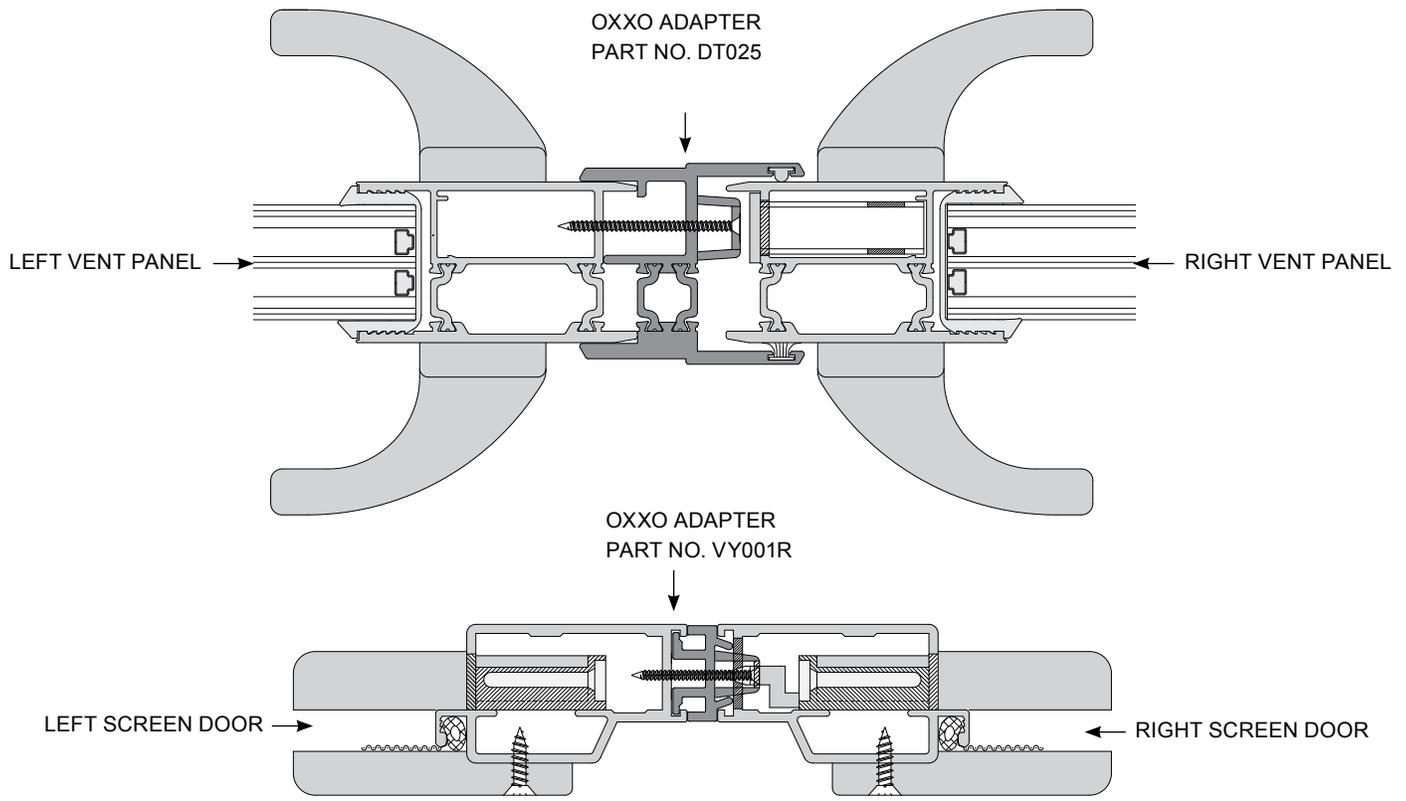

FIG. 55
3. Install DT02511 OXXO Adapter (FIG. 55) to the inactive vent panel. Dry fit the adapter on the panel first. Close both panels and check the spacing and alignment. (FIG. 43) Maintain an equal gap at the top and bottom. (FIG. 44)
8. Install screen door. Refer to FIG. 55 for screen adapter.
9. Position lock strike so screen catch moves freely and secure with (2) Part No. 8x12HWSMS 8 x 1/2" Hex Washer Head SMS fasteners.